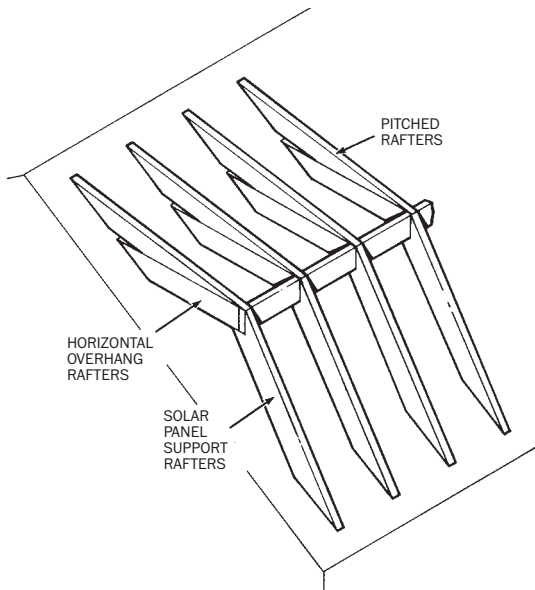

FIG. 20 A Rafter Support Structure for Solar Panels.
STEP 1. RAFTER CALCULATIONS: The pitch for the support rafters, which is really the desired tilt angle for the solar panels, will be needed. If known in degrees, convert it to the nearest inch rise so that the tables may be used. This pitch is found by adding 10 to 15 degrees to your latitude (since this is theoretically the best for heating). In our example, we need a 58° pitch or a 19 inch rise because the latitude of Milwaukee is 43°. (See Table C, page 39). The angle of tilt is not critical, since the efficiency is not appreciably reduced by a small difference in tilt angle from optimum, thus the closest inch rise can be used (see Figures 20 and 21).
STEP 3. RAFTER PATTERN CUTS: If Figures 20 and 21 are carefully studied, the rafter pattern cuts can be easily made following the patterns that were laid out. Set your saw at 90° for all the cuts.